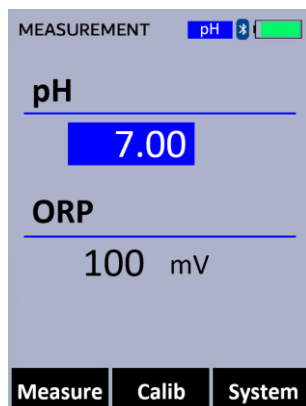

Figure 14. Display pH and ORP values
5. The pH and ORP values will be updated every two seconds on the SP-505 main module display. The values will be displayed in white with a **blue background** once a stable value is reached (Figure 14).